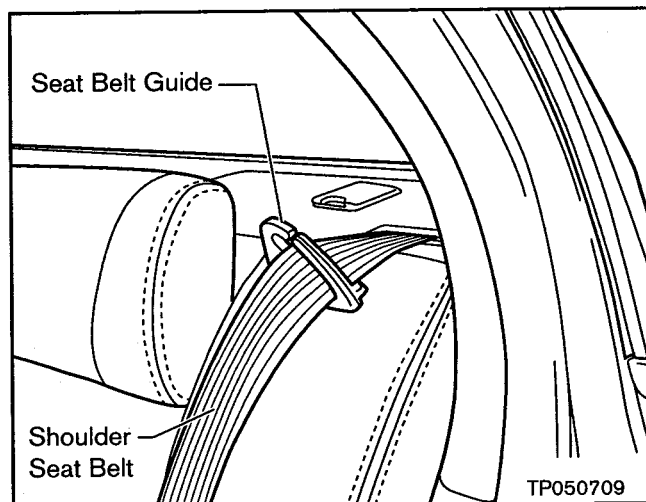

Figure 2
- This procedure shows you how to replace the Rear Seat Child Restraint Anchor Brackets on the driver's side (LH) rear seat.
- Also use this procedure for replacing the Rear Seat Child Restraint Anchor Brackets on the passenger side (RH) rear seat.
- b. Remove the Shoulder Seat Belt from the Seat Belt Guide (see Figure 2).